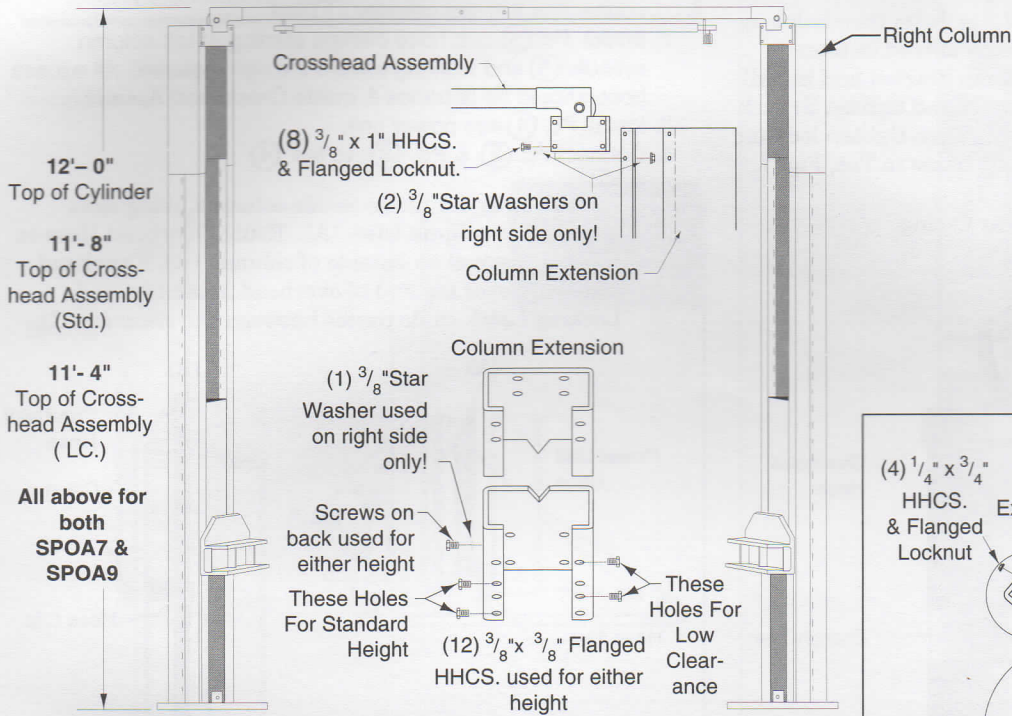

Fig. 4
- Lift Height:** See Fig 4 for overall lift height of each specific lift model. Add 1" min. to overall lift model height to lowest obstruction.
• All Star Washers are to be mounted on the Right side column to ensure grounding of overhead limit switch. Star Washers are not needed when mounting to Left Side column. Notice the column extension mounting, Fig.4, and overhead limit switch mounting as well in Fig.6.
- Install column extensions to columns using (12) 3/8" x 3/8" lg. Flanged Hex Cap Screws, Fig. 4. Adjust column extensions plumb as required.
- Install crosshead assembly to column extensions with (8) 3/8" x 1" lg. Hex Cap Screw and Flanged Locknuts, Fig. 4. Tighten bolts at center of crosshead assembly.